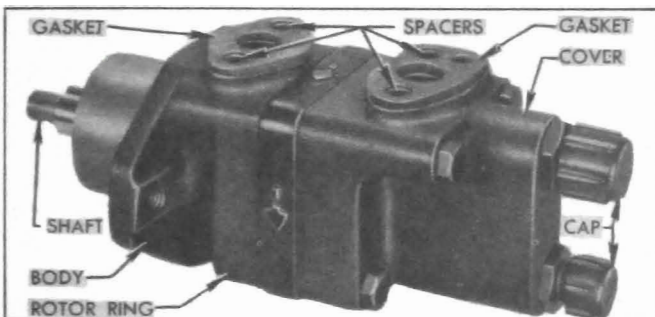

Figure 8-35—Pump with Reservoir Removed
2. Remove reservoir cover, drain out all oil, then remove reservoir which is attached with four bolts on the inside. Remove two cork gaskets, being careful not to lose the spacer located in each bolt hole. See figure 8-35.
7. When pump cover is installed, turn cover bolts down snug only. Install the reservoir with *new* gaskets, being sure that a spacer is located in each bolt hole (fig. 8-35), then tighten reservoir and pump cover bolts securely. This is necessary to assure proper alignment of the cover, reservoir, and body.